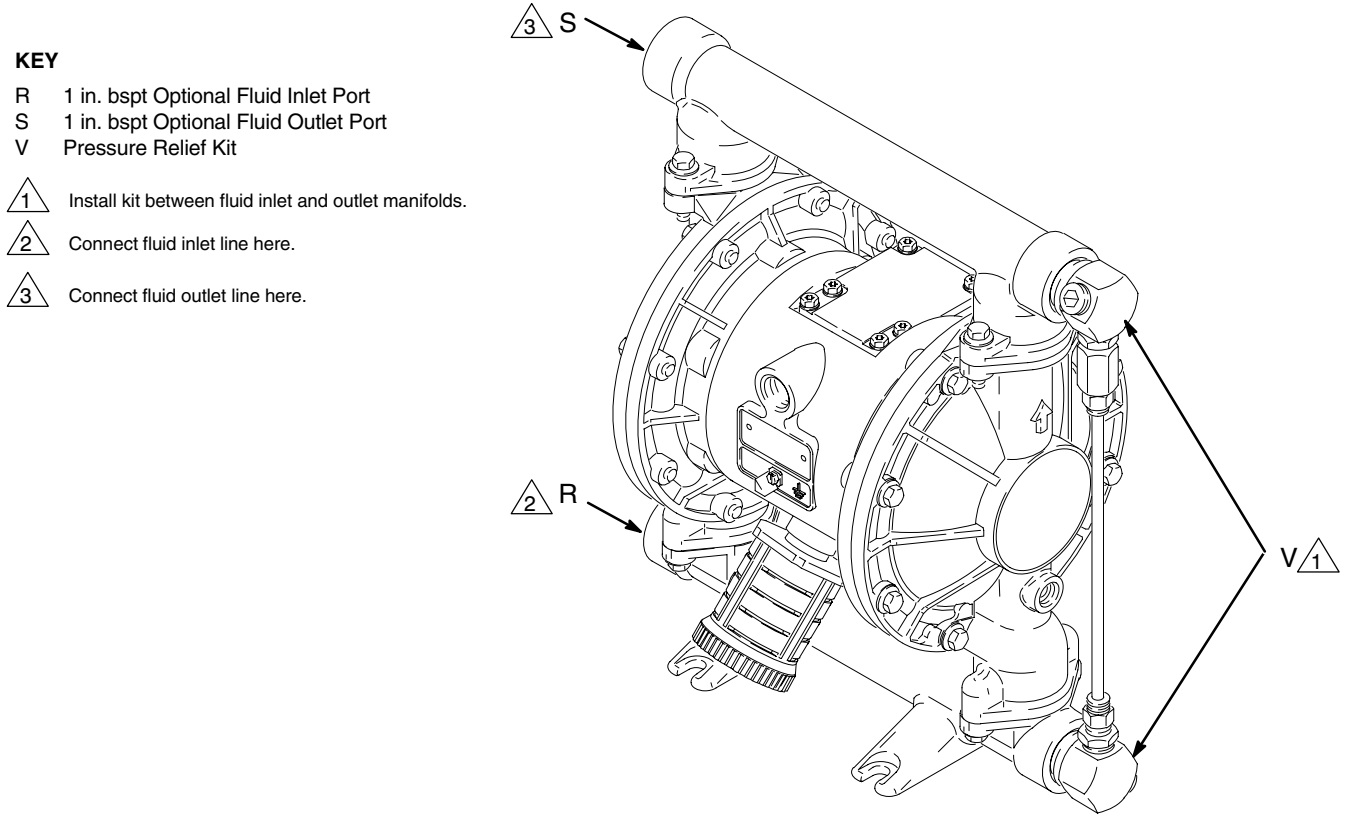

Fig. 7
Pressure Relief Kit 819.4472 (V) is available for Aluminum Pumps, to prevent overpressurization and rupture of the pump or hose. See Fig. 7. The kit includes instructions.